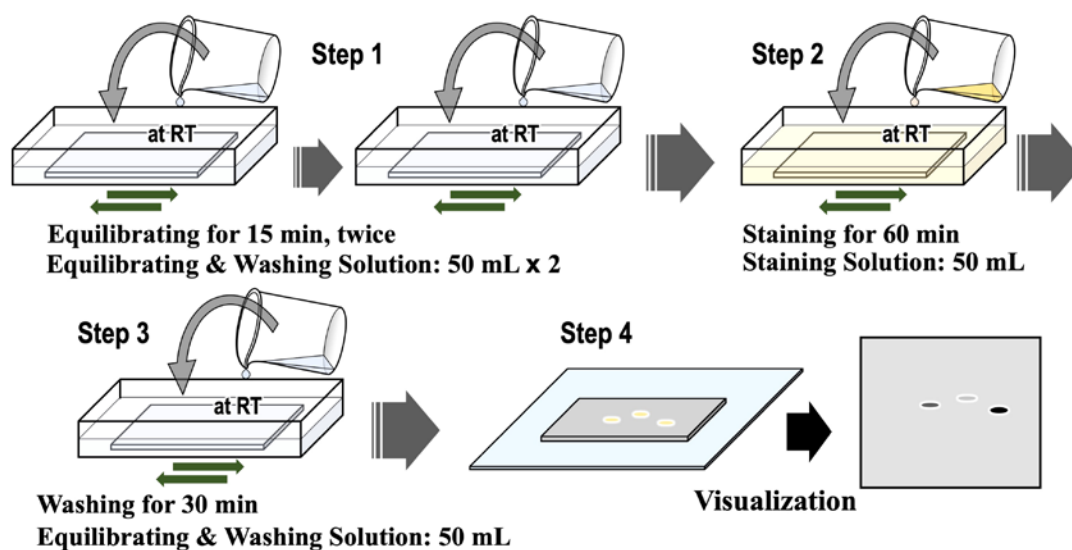

Figure 1. Step-by-step procedure for Phos-tag™ Yellow staining.
6. Basic Protocol for Phos-tag™ Yellow Gel Staining (Figure 1)